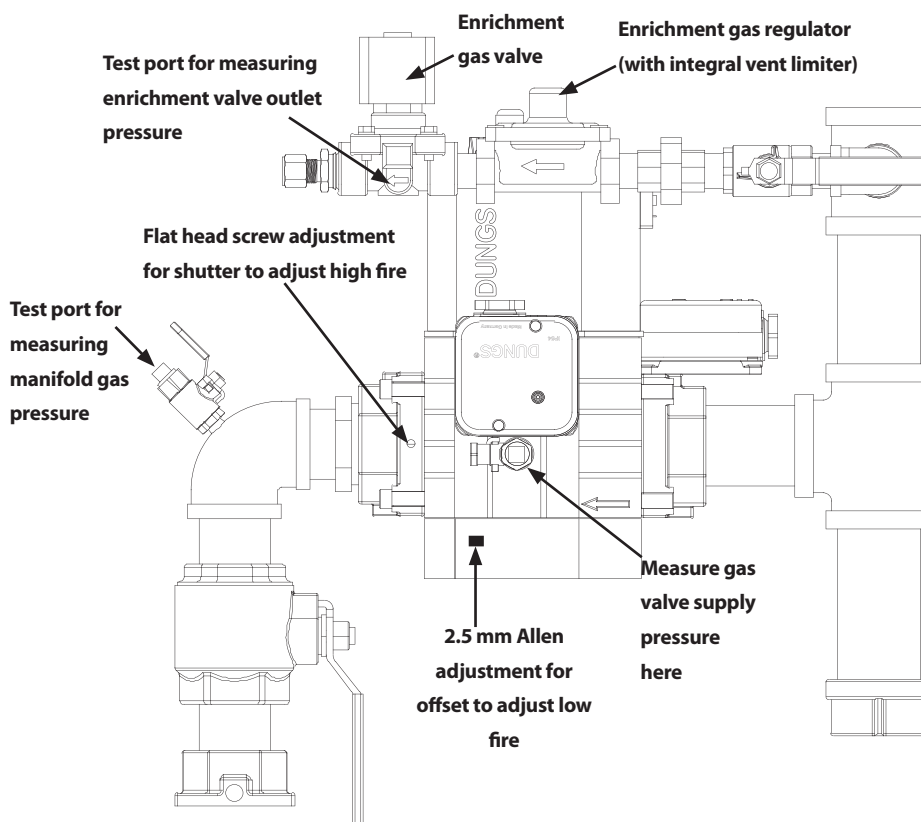

FIGURE 10 - DUNGS GAS VALVE
► **NOTE:** Perform the following steps for field commissioning with the Dungs Gas Valve (Figure 10).
5. To increase the O2 level at high fire, turn the Valve Adjustment (Gas valve shutter on the downstream side of the gas valve, see Figure 10) slotted screw counter-clockwise. To decrease O2 level, turn the Valve Adjustment screw clockwise. Once the correct O2 level is reached slowly go back to low fire and check combustion.
6. When you have reached low fire RPM and if O2 adjustments are required the Valve Offset Adjustment (allen screw on the side of the valve, see Figure 10) will need to be rotated. To increase O2 turn the Valve Offset Adjustment screw counter-clockwise, turn in the opposite direction to decrease O2.
10. Connect an inches of water column measuring device (i.e., manometer) to the Enrichment gas valve test port (Figure 10). Insert combustion analyzer probe into the flue gas outlet port.
12. The enrichment gas regulator (Figure 10) may be used to increase or decrease the valve outlet pressure as required.